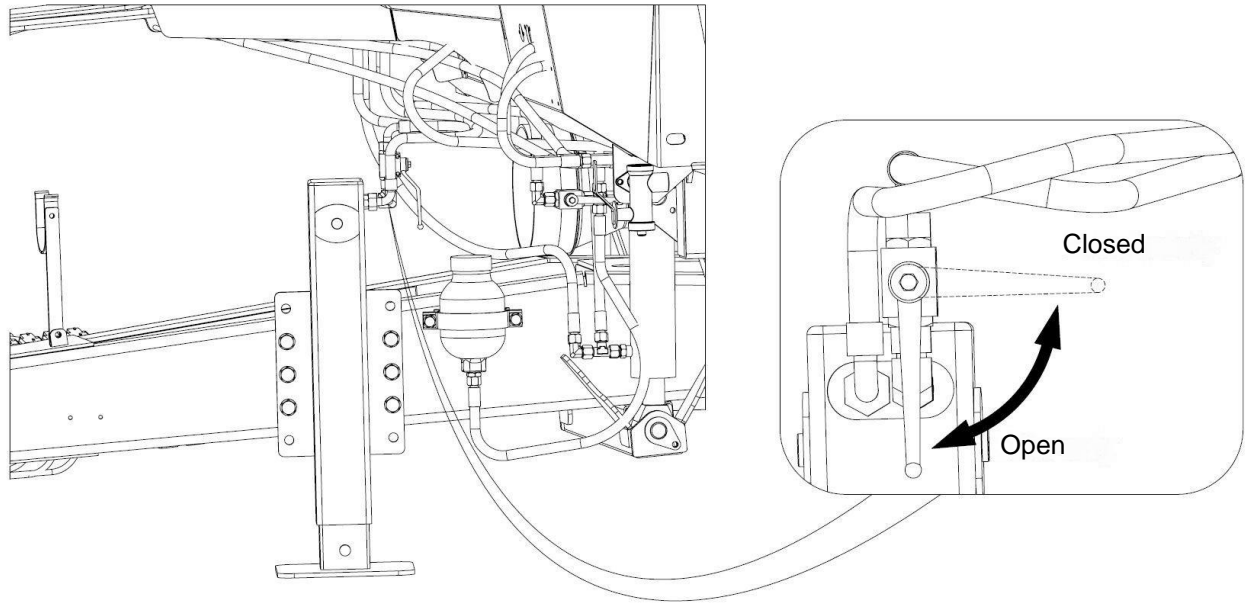

Figure 19. Hydraulic valve to control (shut off) the hydraulic parking jack
- 7) Close the parking jack locking valve (Figure 19). If the tractor has too few hydraulic sockets for connection of other hydraulic systems, the hydraulic lines of the support leg can be disconnected for travel and operation. When disconnecting the hydraulic lines, make sure that the pressure in the lines is reduced.